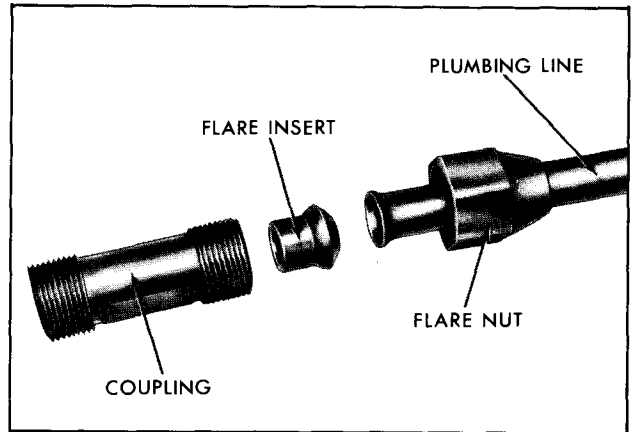

Figure 54—Plumbing Line Ready for Repair
3. Grasp the line over the pilot with the Holding Tool and screw the pilot into the Flaring Tool making a flare on the end of the line (figure 54).